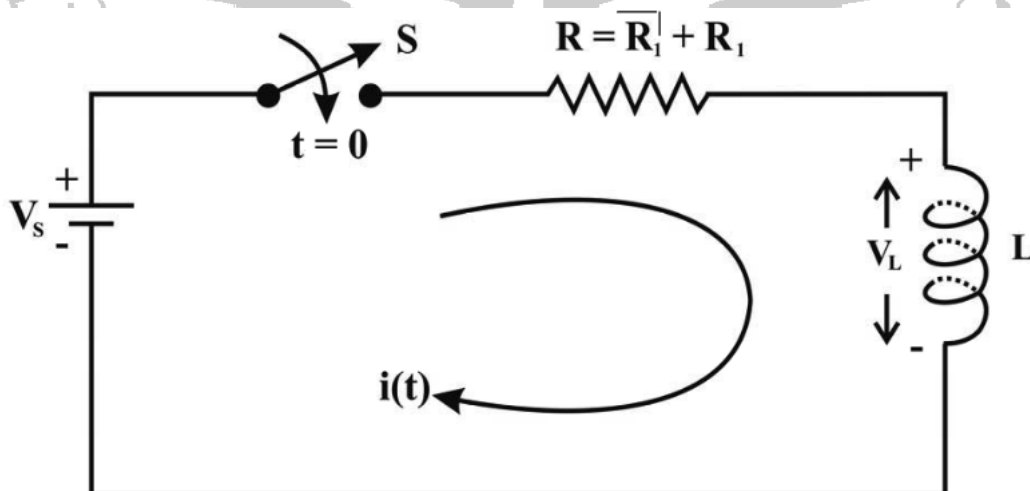

Fig 27.1: Circuit diagram to measure voltage across Inductor
2. Connect the circuit as shown in figure 27.1